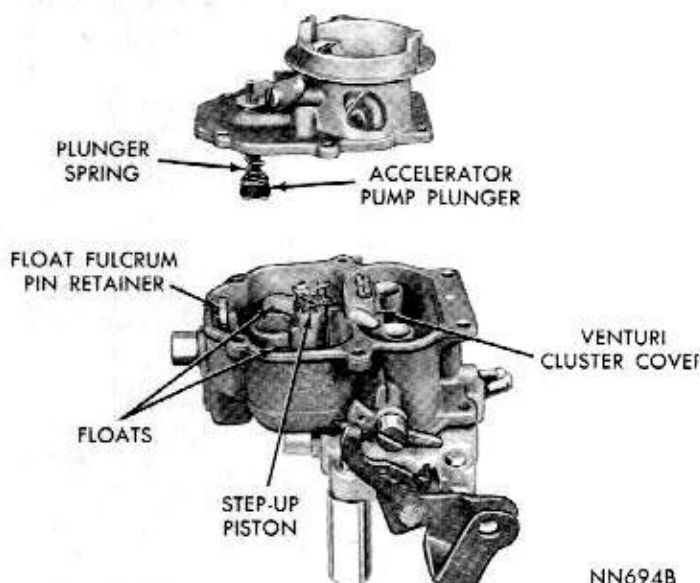

Fig. 3—Removing or Installing Air Horn
(3) Remove clips and disengage fast idle connector rod from fast idle cam and choke lever.
(4) Remove vacuum hose between carburetor main body and choke vacuum diaphragm.
(5) Remove clip from choke operating link and disengage link from diaphragm plunger (stem) and choke lever.
(6) Remove choke vacuum diaphragm and bracket assembly and place to one side to be cleaned as a special item. **A liquid cleaner may damage diaphragm material.**
(7) Remove air horn retaining screws and lift air horn straight up and away from main body, (Fig. 3).